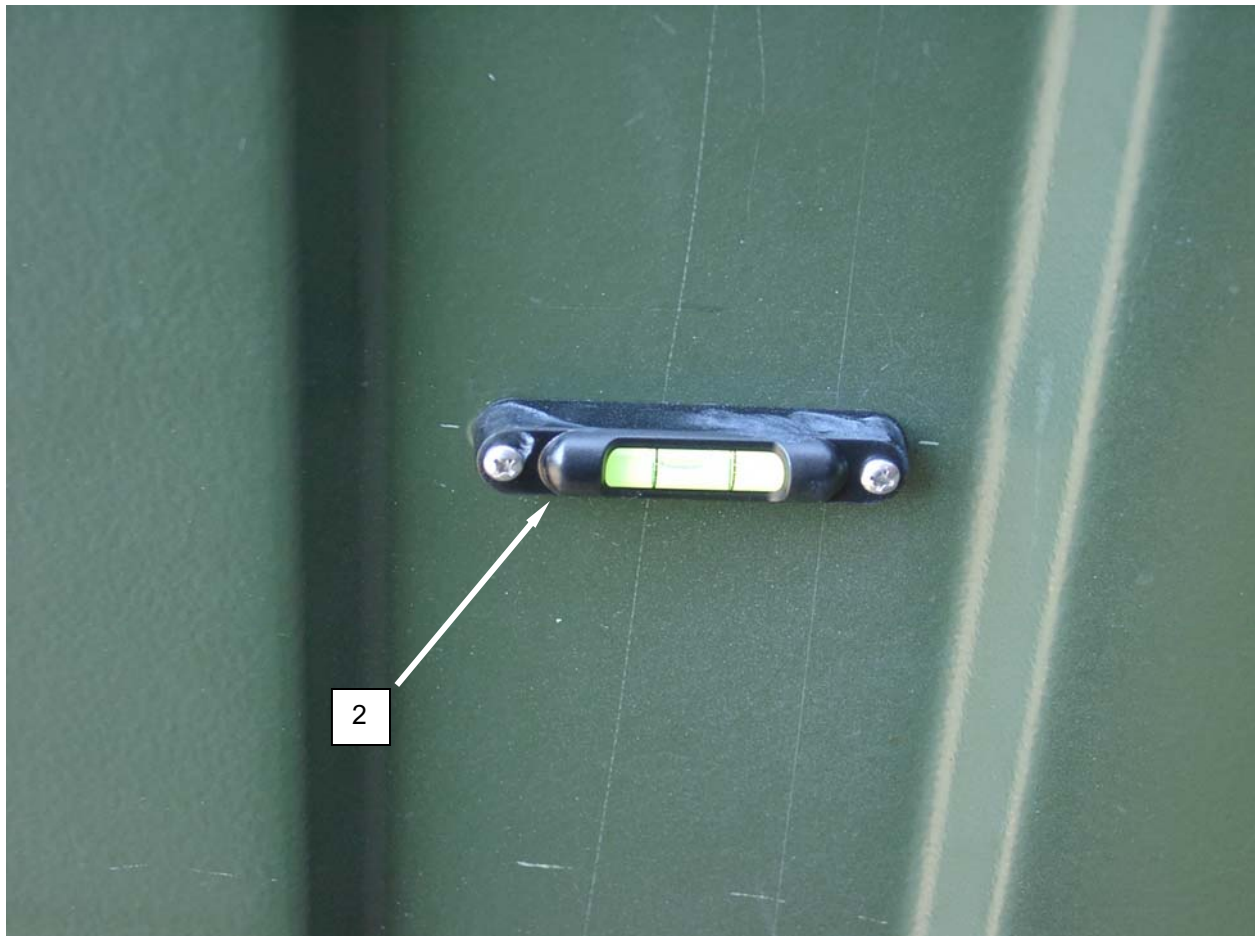

Figure 2. Replace a Level Indicator.
1. Remove screws retaining level indicator (**Figure 2, Item 2**) and remove level indicator.
2. Install replacement level indicator (**Figure 2, Item 2**) and retain with screws.